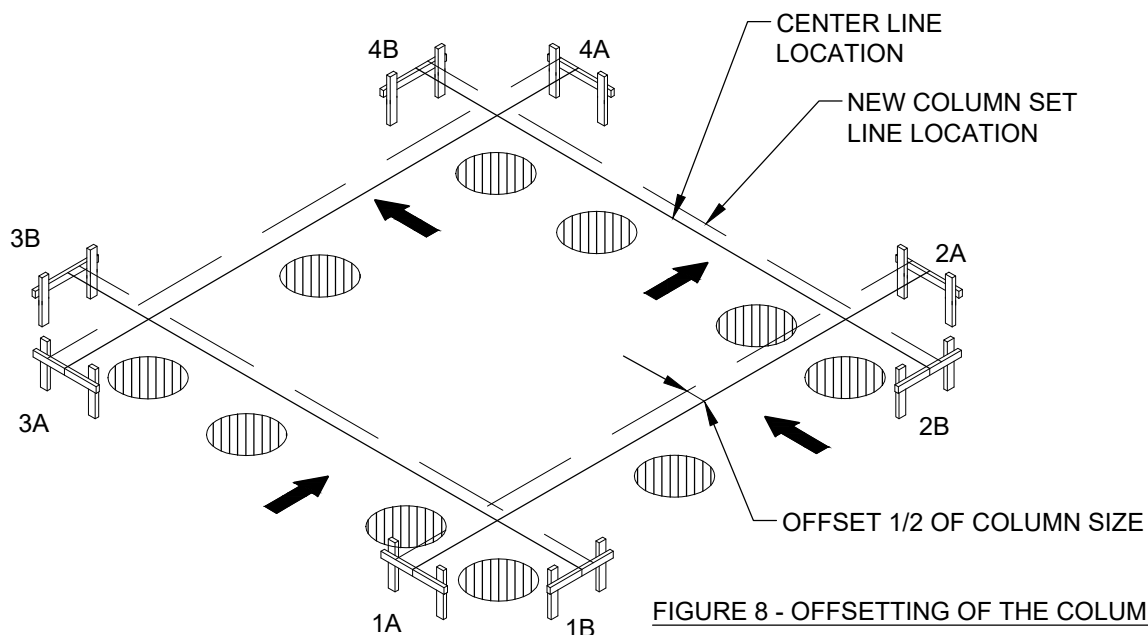

FIGURE 8 - OFFSETTING OF THE COLUMN SET LINES
2. TO FIND THE **COLUMN SET LINES**, YOU MUST RE-STRING THE FOUNDATION LAYOUT. FROM THE CENTER LINE MARKS ON THE BATTER BOARDS, MEASURE 1/2 THE SIZE OF THE COLUMN AND MOVE THE LINES TO THAT MARK. (ALWAYS MOVE THE LINES IN THE SAME DIRECTION TO PREVENT CONFUSION AND MISPLACEMENT OF COLUMNS (SEE FIG. 8).